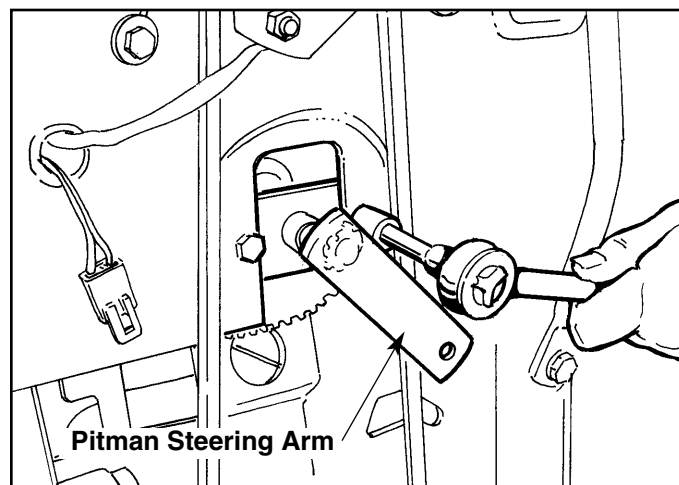

Figure A-25. Remove Hex Capscrews
3. Remove taptite hex head capscrews that secure pitman steering arm/assembly to underside of unit (Figure A-25).